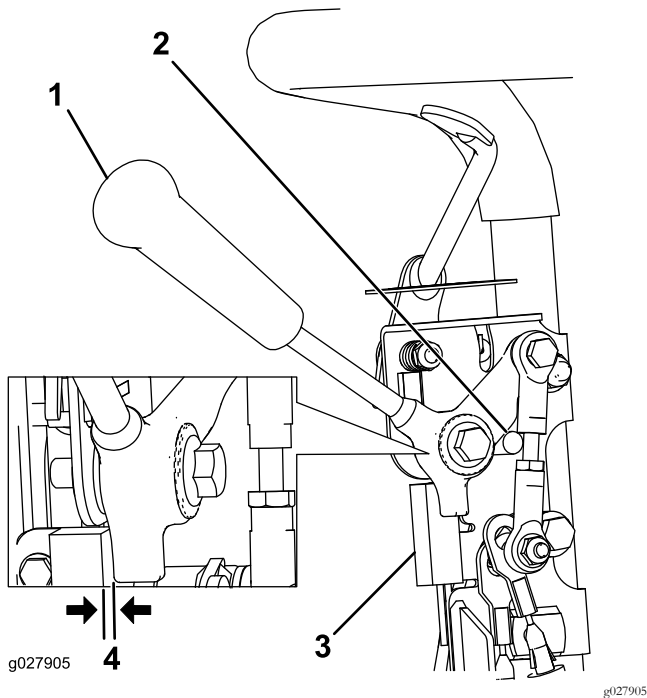

Figure 30
1. Make sure that the engine is off and the traction lever is disengaged and resting against the neutral stop (Figure 30).
2. Loosen the interlock switch mounting fasteners (Figure 30).
3. Place a 0.8 mm (0.032 inch) thick shim between the traction lever and the interlock switch (Figure 30).